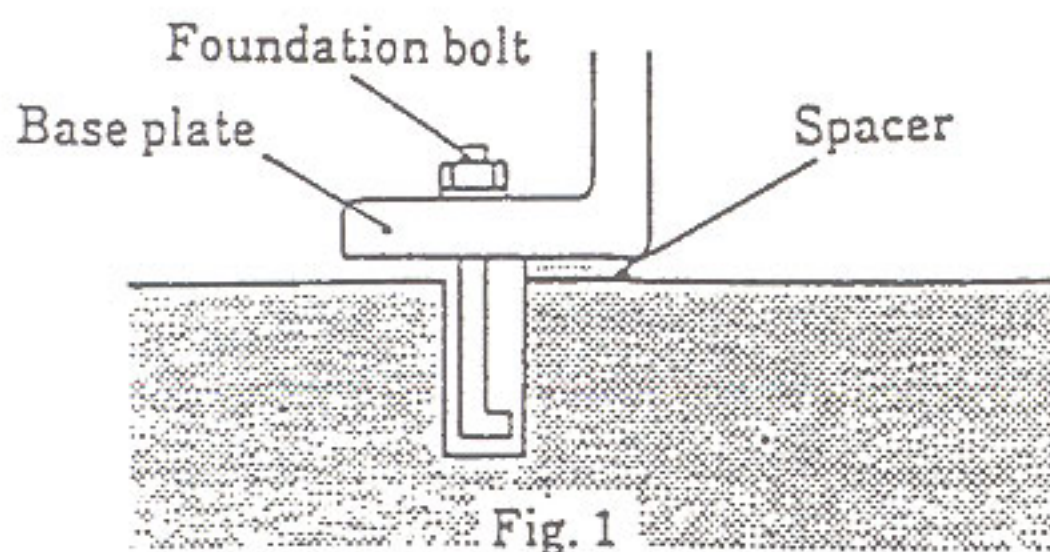

FIG. 1
- > Insert a spacer between the concrete surface and the bottom of the base to level the pump horizontally. Next, put a level on the discharge flange surface to adjust the pump horizontally in the direction of the pump shaft. Also adjust the direction vertical to the pump horizontally in the direction of the pump shaft. Also adjust the direction vertical to the pump shaft at the same time by placing a level on the suction flange surface. Pour cement mortar into the foundation bolt holes after leveling has been completed. When the cement mortar is hardened, fasten the anchor bolt nuts firmly. (see Fig. 1).